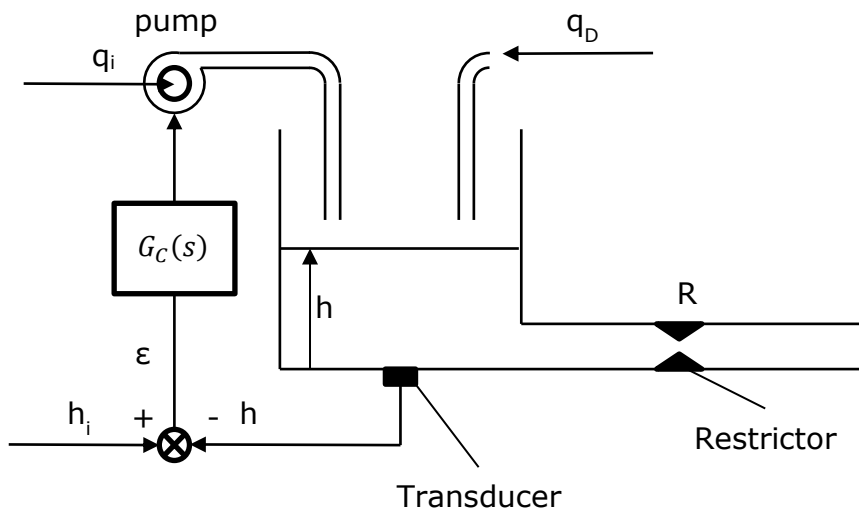

Figure Q2
2. Figure Q2 illustrates a simple system for controlling the level of liquid in a tank with uniform cross-sectional area  $A$ . The error signal  $\varepsilon$  is derived by comparing the actual height  $h$  with the desired level  $h_i$ , and is fed to a controller which drives a variable speed pump such that the controlled volumetric inflow rate  $q_i$  to the tank is given by: